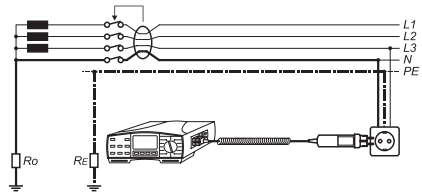

Figure 74: Test Leads Connection to COMMANDER 1
- ▶ Connect the test leads to UUT in accordance with Figure 74 or 75. If desired, this connection information can directly be retrieved on the measurement instrument using the key 'HELP'. Repeated pressing of the key 'HELP' indicates the various options for connection.